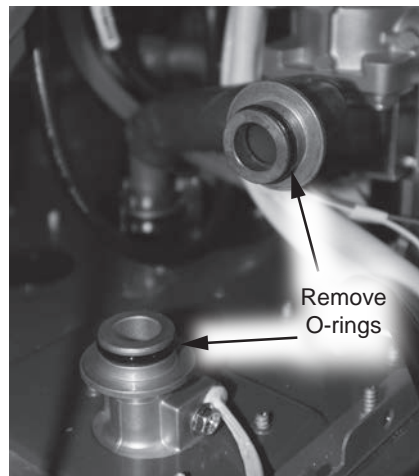

Figure 177 - Locating and removing O-rings
**17** Locate the two O-rings on the exposed water pipe connections as shown in Figure 177 and remove them. Dispose of O-rings properly.